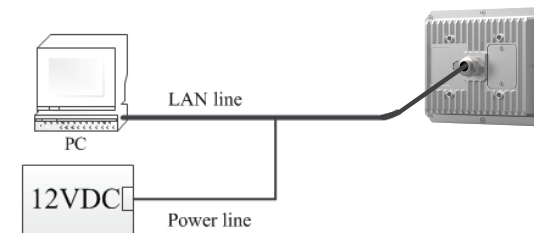

Fig.3-2
- ② Connect PC and SMWR01A radar sensor as shown in figure3-2: